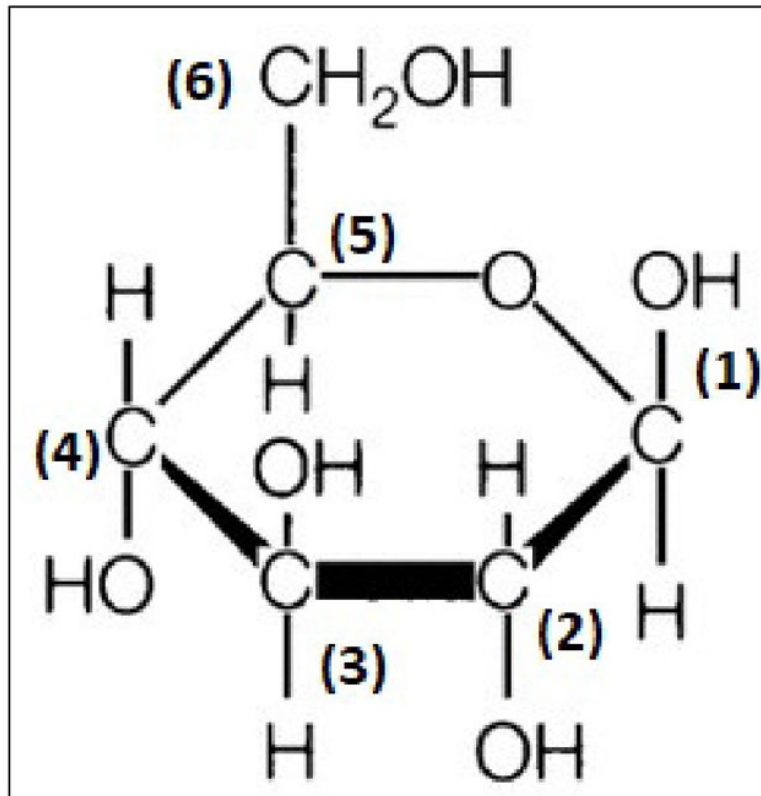

Figure 17 – Glucose molecule structure
One of the essential building blocks of pomes, drupes and berries is the glucose molecule, $C_6H_{12}O_6$. Figure 17, taken from a 2001 article by Charles Bamforth, (4) illustrates the glucose molecule assemblage which comprises six carbon atoms, twelve hydrogen atoms and six oxygen atoms. Chemists have a system for numbering the atoms that make up molecules which commences at the right side of a molecule. In glucose, the carbon atom at right is carbon atom number one, the oxygen atom at right is number one and the two hydrogen atoms are number one and two respectively. Progress around the ring-like structure in a clock-wise fashion counting
incrementally to assign numbers to the other atoms. In Figure 17, I have numbered the carbon atoms to better illustrate the numbering methodology.